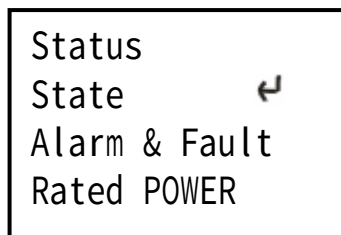

Fig.13 : main menu
- 6) Select and confirm the status info can view the details, including status information, alarm information, code, power rating and version. See Fig 13 to 14